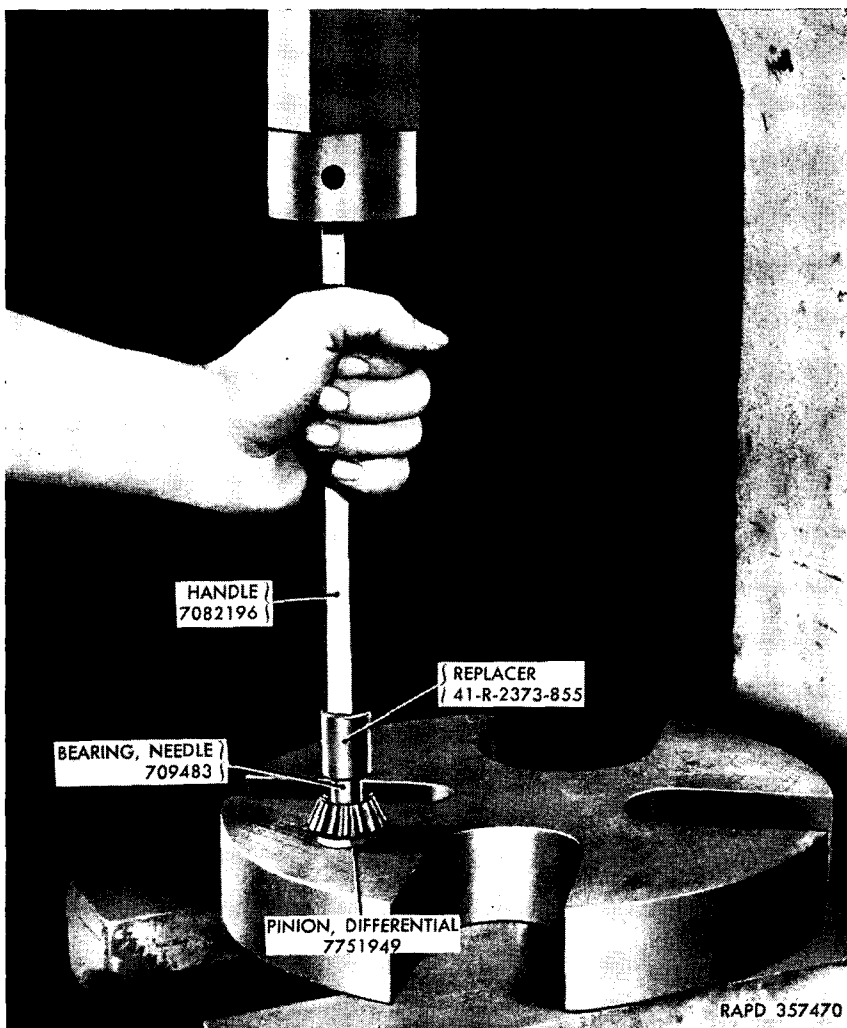

Figure 99. Installing needle bearing in differential pinion.
- (1) Pack all bearings with lubricant prescribed on lubrication order (TM 9-718).
- (2) Tap two keys into keyways in carrier and press on differential carrier gear and bearing.
- (3) Press bearing on differential motor shaft. Tap small key into carrier end of shaft and press gear on shaft. Install retaining ring with snap ring pliers (41-P-1992-27). Thread shaft assembly into carrier. Press needle bearings into pinions flush with thrust surface of pinions, using replacer (41-R-2373-855) and handle (7082196) (fig. 99).